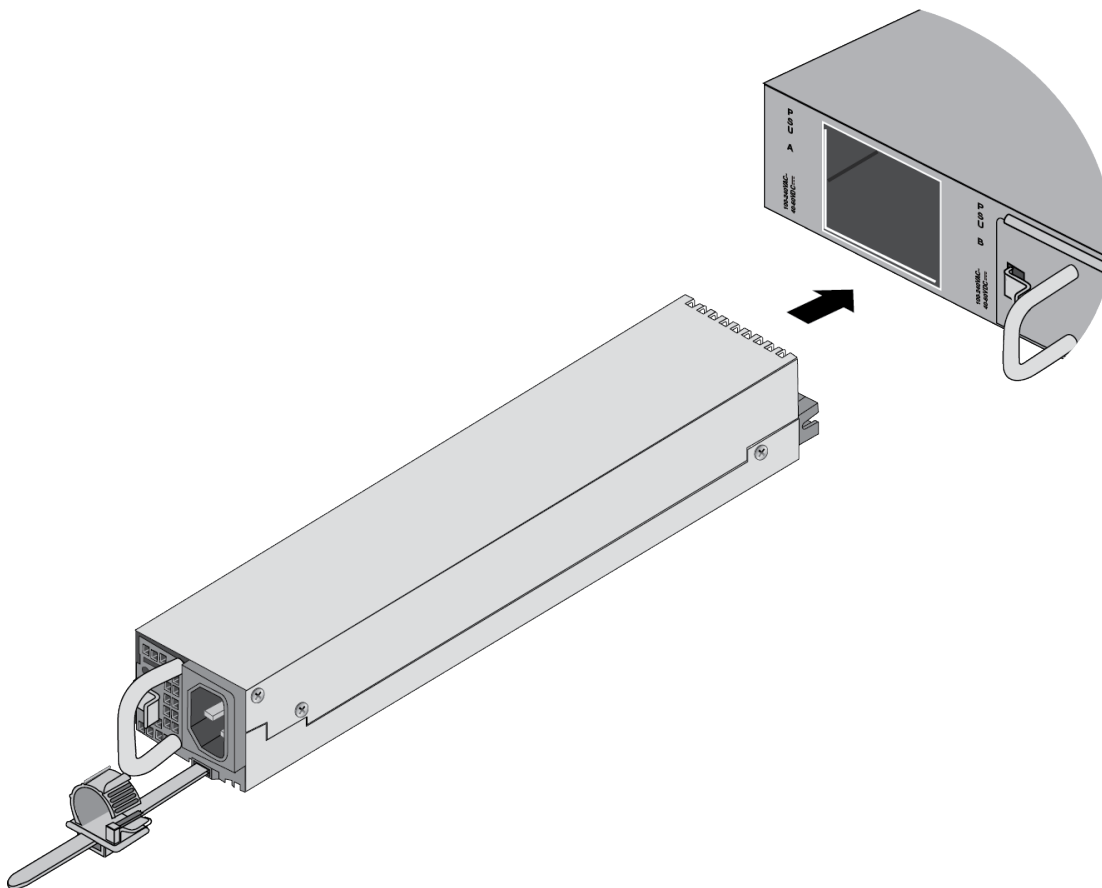

Figure 56. Sliding the PWR600 AC Power Supply into the Switch
3. Carefully align the power supply in the slot and slide it into the slot. Figure 56 shows the module aligned for the PSU A slot.